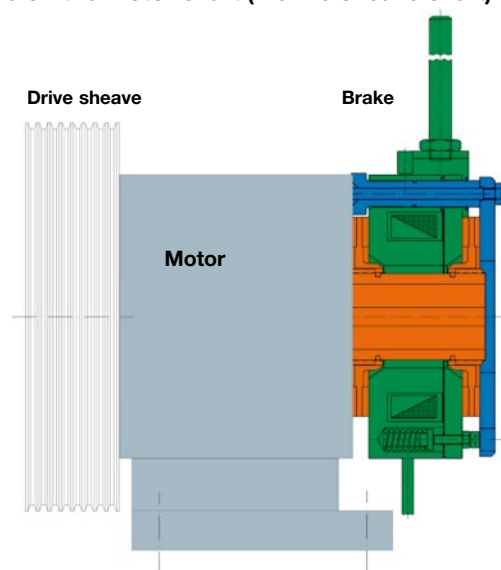

Fig. 2
(see Figs. 2 and 3).
**Brake attachment** on the motor bearing shield or own mounting flange with effect on the drive sheave shaft (see Figs. 2 and 3).